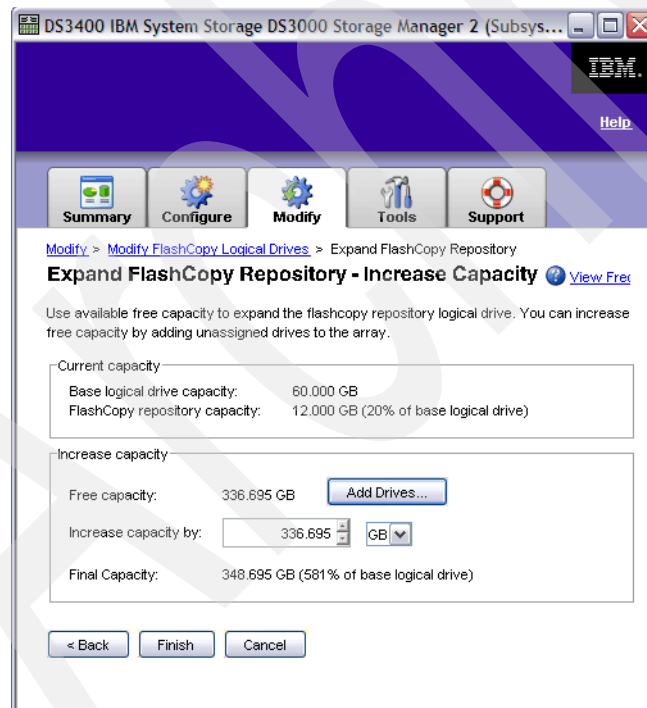

Figure 11-45 Modify - drives added - more free capacity available
5. The new free capacity will be immediately available in the “Increase Capacity” part of window (Figure 11-45).